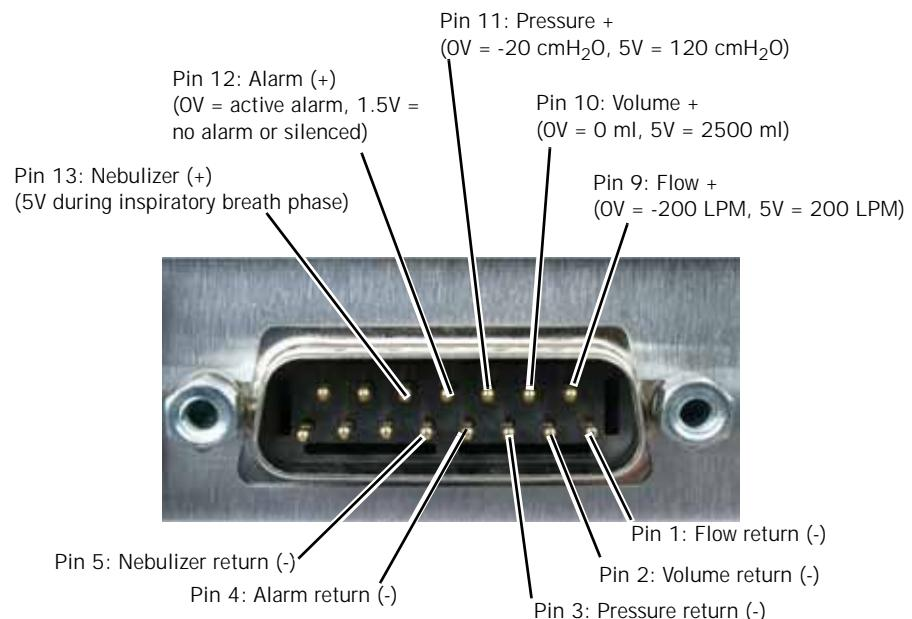

Figure 8-22: Analog Output Port Pinouts
18. Select **ALARM** on the signal selector box or refer to Figure 8-22 for pinouts.
21. Select **NEBULIZER** on the signal selector box or refer to Figure 8-22 for pinouts.
25. Select **PRESSURE**, then **VOLUME**, then **FLOW** on the signal selector box or refer to Figure 8-22 for pin outs and verify the DMM reads 2 V (+ 0.3 V) at each setting.
27. Select **FLOW**, then **VOLUME**, then **PRESSURE** on the signal selector box or refer to Figure 8-22 for pinouts and verify the DMM reads 4 V (+ 0.5 V) at each setting.